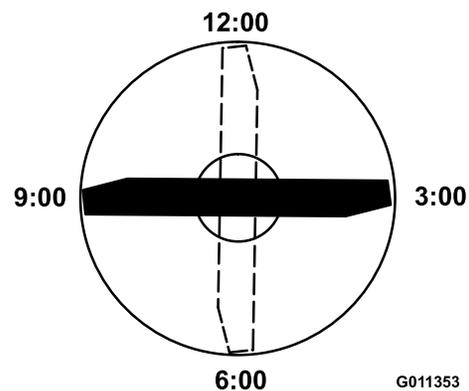

Figure 83
4. Position the cutting edge of the marked end of the blade at 12 o'clock (straight ahead in the direction of mowing) (Figure 83) and measure height from table to cutting edge of blade.
5. Rotate the marked end of the blade to the 3 and 9 o'clock positions (Figure 83) and measure the heights.